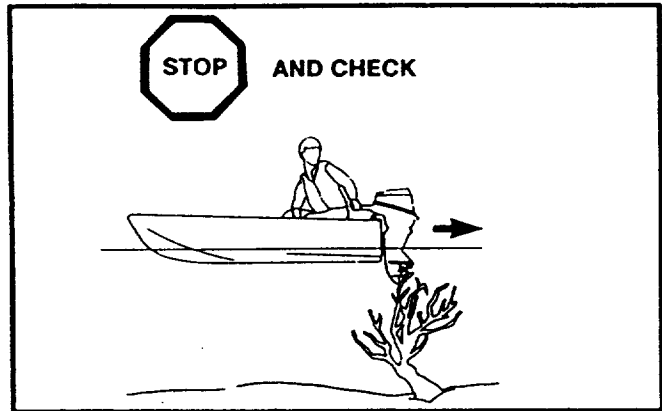

FIGURE 19
- Avoid striking underwater objects especially in reverse, since both the motor and the transom may be damaged. (Figure 19)